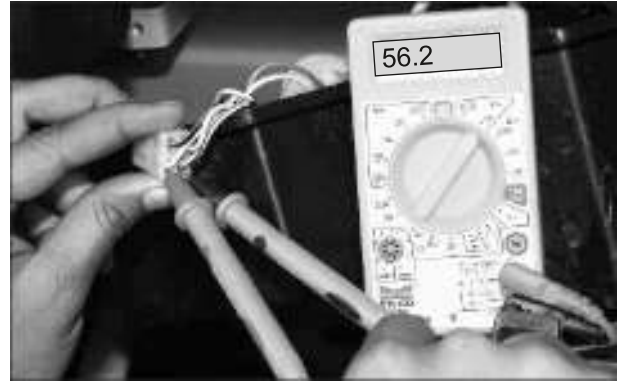

Fig. 6.31
- Connect the '+ve' probe of the multimeter to the White with Red tracer (WR) wire from the magneto assembly and '-ve' probe of the multimeter to the White with Black tracer (WB) wire from the magneto assembly. (Fig. 6.31)